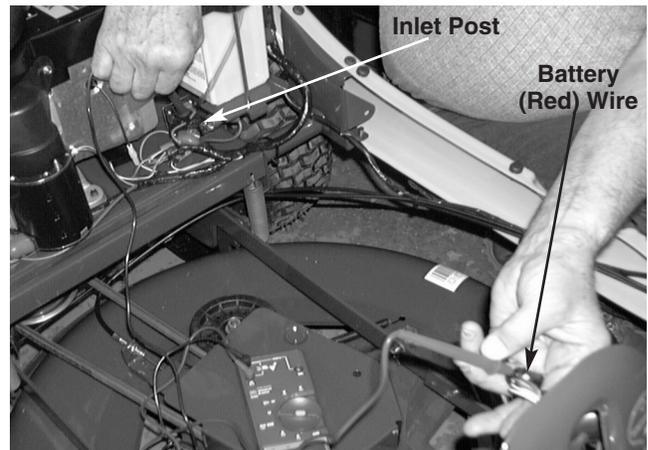

FIGURE 8.
- 15). Place one probe on the inlet post of the solenoid. Place the second probe on the battery (red) wire of the ignition switch connector. –There will be **CONTINUITY**. See figure 8.